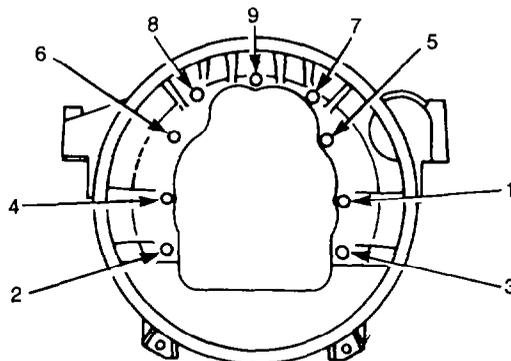

Figure 56 — Flywheel Housing Bolts — Tightening Sequence
- bv. Correct any run out or out of alignment as required, then replace the guide studs with retaining bolts and torque the bolts to 205 Nm (150 lb.ft) using the sequence shown in Fig. 56.